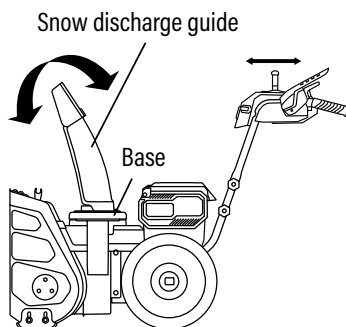

Fig. 10B
1. To increase or decrease the distance that the snow is thrown, press and pull the chute deflector handle backward or forward to raise or lower the chute deflector (Fig. 10B).